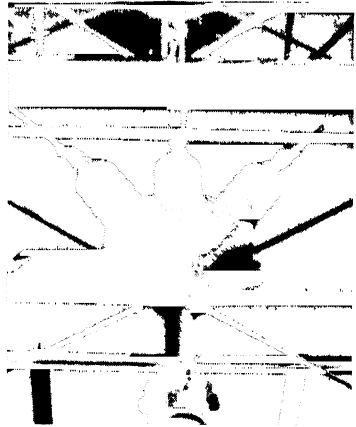

FIG 4-61 Typical three-conductor pothead. A pothead provides the means for connecting a cable to open wires (Courtesy G & W Electric Specialty Co)
**Construction.** A pothead consists of a pot (from which it gets its name) which slips over the lead sheath of the cable through a hole at the bottom of the pot and is flared out at the top to give the necessary separation to the conductors (see Fig. 4-61). The pot is attached to the lead sheath either by a wiped joint or by a clamping device. The pot is then completely filled with a molten insulating compound. When this insulating compound cools, it hardens, and thus makes it impossible for moisture to enter the cable. When potheads are placed outdoors, a porcelain cover is provided to prevent the accumulation of dirt on top of the compound. The cover also protects from rain and snow. In addi-